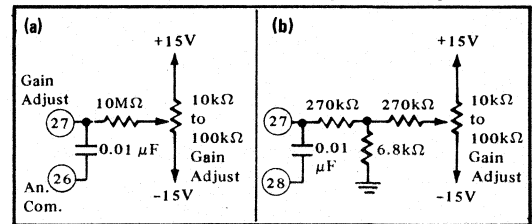

FIGURE 10. Two methods of connecting optional gain adjust with a 0.6% range of adjustment.
**GAIN** - Connect the GAIN adjust potentiometer as shown in Figure 10. Sweep the input through the end point transition voltage that should cause an output transition to all bits on ( $E_{IN}^{ON}$ ). Adjust the GAIN potentiometer until the actual end point transition voltage occurs at  $E_{IN}^{ON}$ .